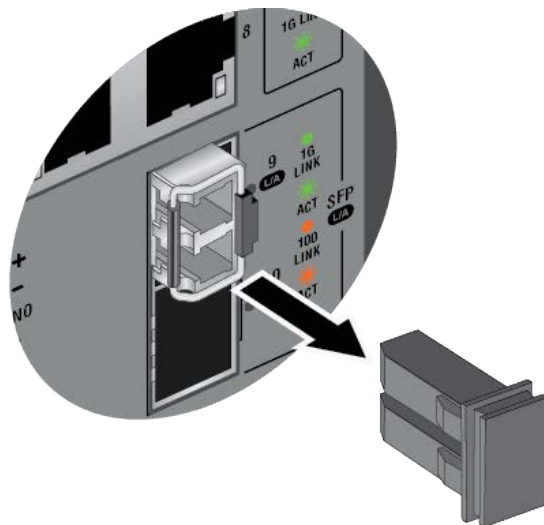

Figure 42. Removing the Dust Cover from a Transceiver
4. Remove the dust cover from the transceiver. Refer to Figure 42.